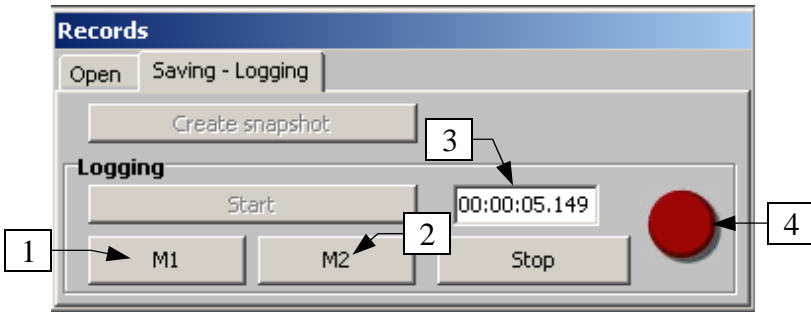

Figure 7.24
- *Logging*: This type of record saves the waveforms of all channels in a longer period of time that can be displayed on a screen; it means that you can create records tens of minutes long. It's maximal length is limited by the computer's free memory. The oscilloscope must be in the FREE mode (timebase 100ms or longer) to use this function. If this condition is not met, recording can not be started. If the oscilloscope is in the FREE mode, after clicking the Start button the program asks for a name of the file in which the record will be saved, and after you confirm it by clicking OK button the recording starts (Figure 7.24). During recording you can insert your marks, for example when there is an error in the signal, by clicking the M1 (1) or M2 (2) icons. The current time of recording is displayed in a text field (3) next to the Start button. A red circle indicates if the recording is running. It can be finished by clicking the Stop icon (4). This type of recording is used in test drives and when you have to find random failures that are caused by short time error of a sensor or actuator signal.